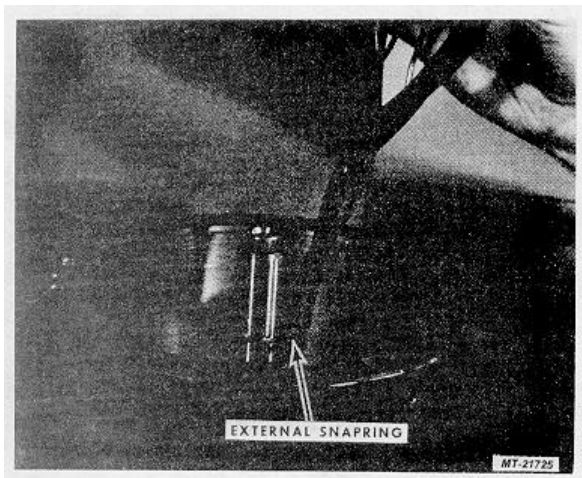

Fig. 33
30. Remove External Snapping, Fig. 33.